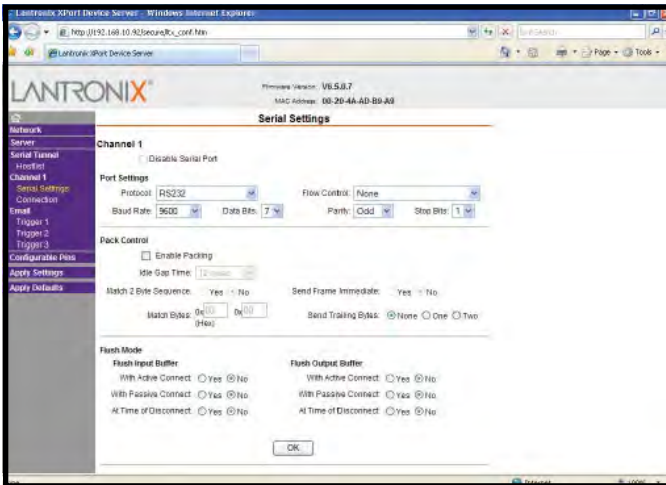

Figure 13. Channel 1 Serial Settings
- The configuration web page will open. Click on the “Channel 1 Serial Settings” link located in the left-hand margin (see Figure 13).